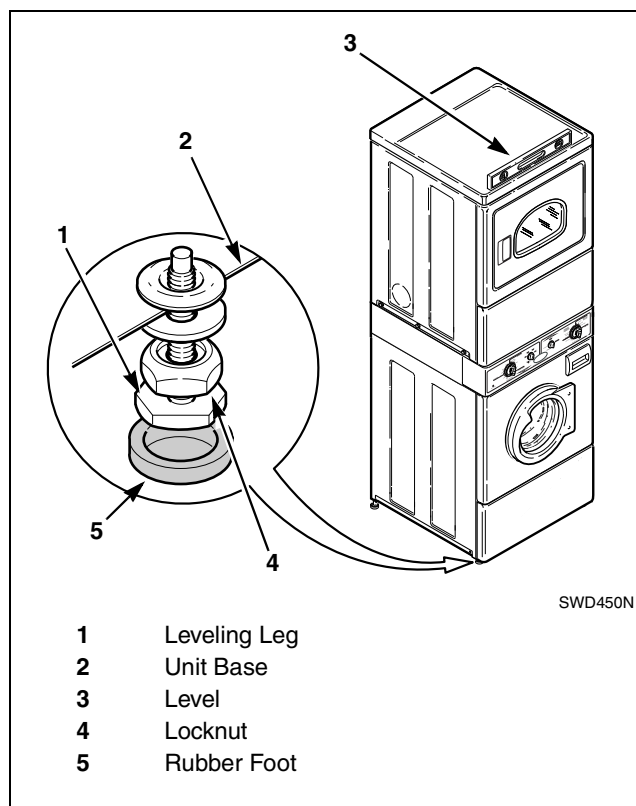

Figure 15
**NOTE: Level must rest on raised portion of top panel. Refer to *Figure 15*.**